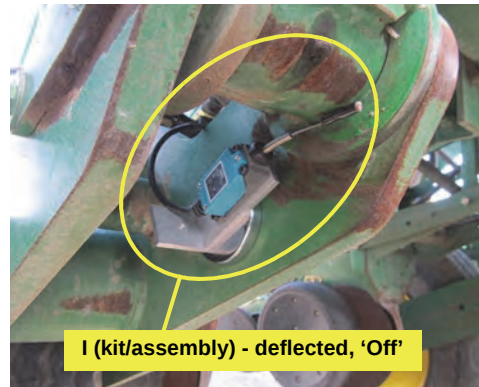

Figure 2b: Example whisker switch installation
- c. Mount whisker lift switch kit/assembly **I** on the planter so that (Figure 2b - example only):